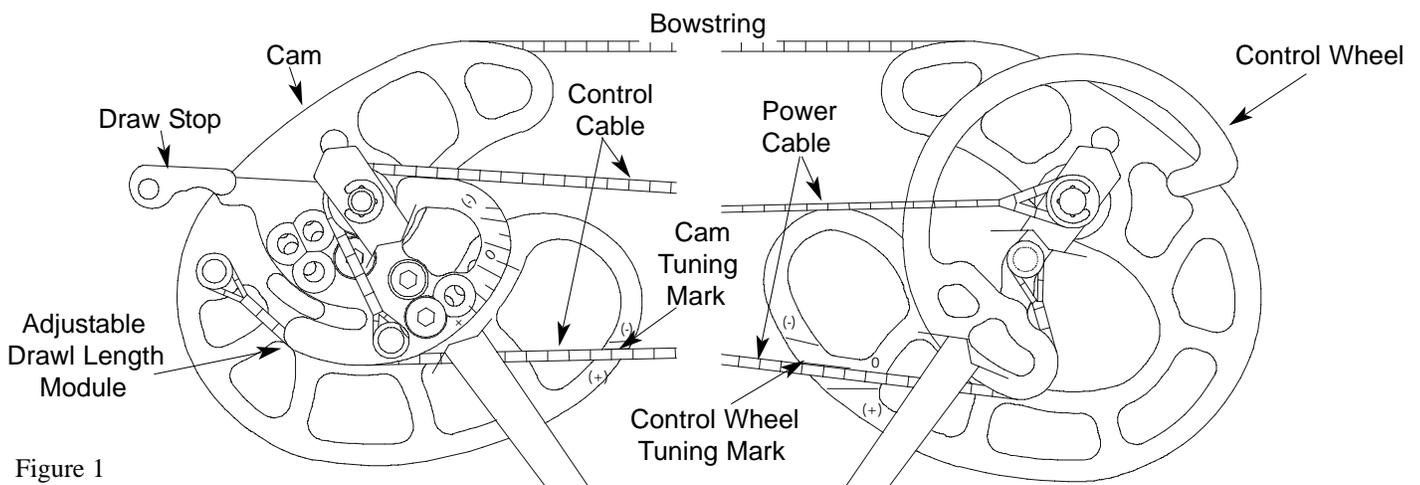

Figure 1
To change draw lengths using the module, put the bow in a bow press and remove the tension from the cables. Remove the two (2) screws from the module and line the module up with the desired new location using the marks on the Cam and Module (fig. 1). Put the screws in the two (2) holes that line up with the Module in its new position and tighten. Be sure the cables are in their respective grooves before
Included in the service package are **draw stop cushions** with pressure sensitive adhesive on the back surface. These are to be used on the draw stop (fig.1) if there is any objectionable noise associated with the power cable making contact with the draw stop when full draw is reached.